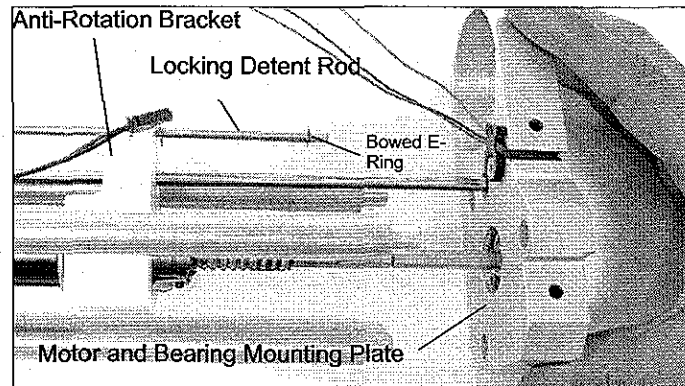

Figure 4-18: Injector Mechanism
2. Inspect the Locking Detent Rod. Make certain that the bowed e-ring is in place and undamaged (see Figure 4-18). If necessary, replace the bowed e-ring; otherwise, replace the Detent Rod (see Section 5.5.8 – Replacing the Locking Detent Rod Assembly).